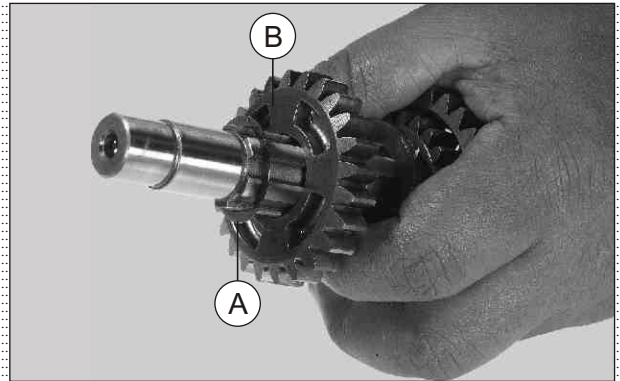

Fig. 3.115
- Take out shim (A). (Fig. 3.115)
- Take out gear 3rd driven (B). (Fig. 3.115)